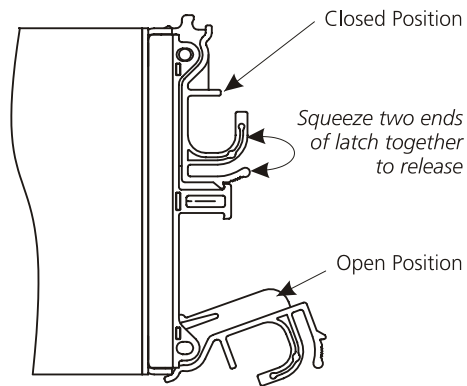

Figure 2–13 Controller Module Latch Operation
- 1 The modules should be installed in rear bays 3 and 4 of the Enclosure (Figure 2–1).